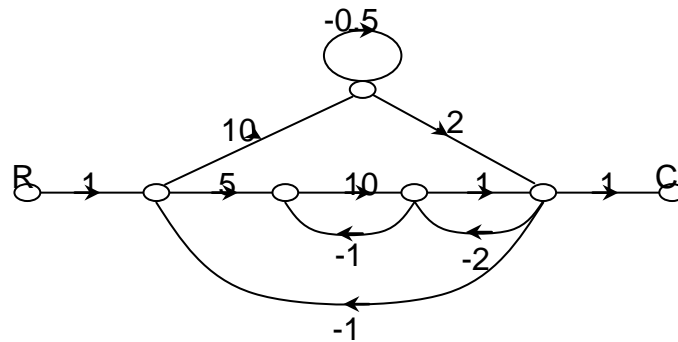

Fig. 3
- b. Find the transfer function for the system shown in fig. 3 using Mason's gain formula. (8)